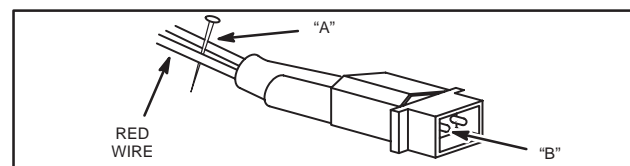

Fig. 758 – TESTING DIODE
5. Attach RED test lead clip to point “A” and Black test lead clip to point “B,” Fig. 758. (It may be necessary to pierce wire with a pin as shown.)